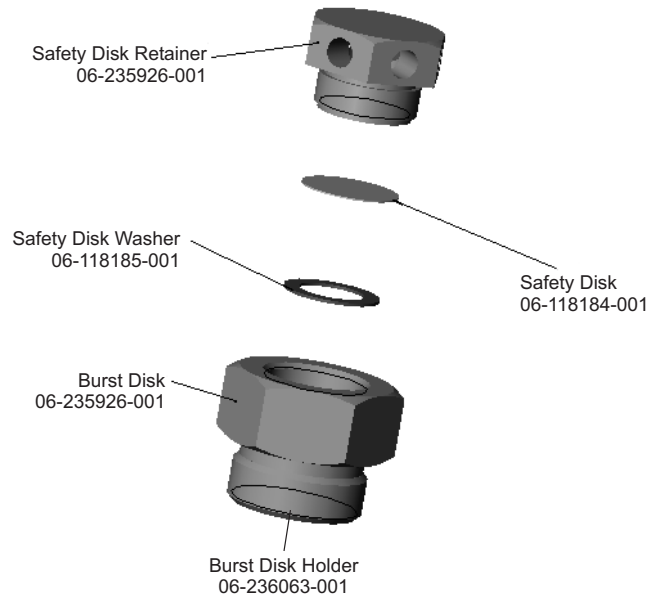

Figure 7-5. Burst Disc
1. Remove the safety disc retainer (see Figure 7-5) including safety disc and safety disc washer from the cylinder body. Discard the safety disc and washer.